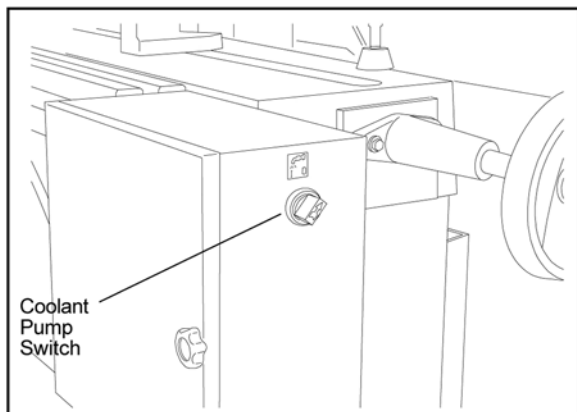

Figure 2: Coolant pump switch
7. A coolant pump switch is provided on the electrical equipment box on the back of the machine (see figure 2).